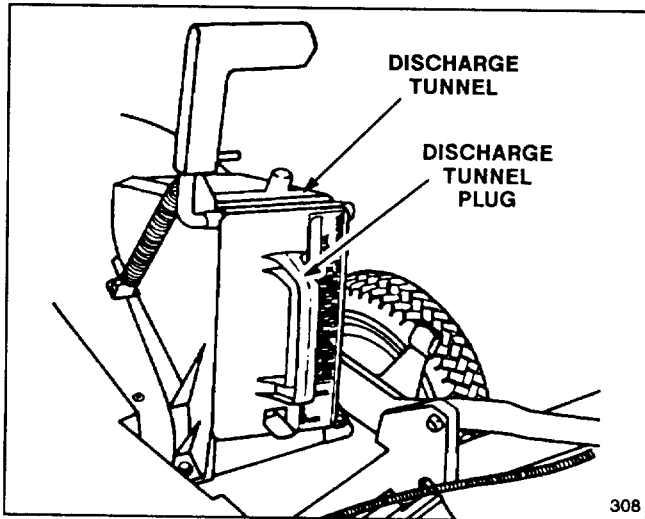

Figure 27
**1. Rear Bagging Kit, Model 59174**—Install discharge tunnel and rear mounting grass bag to convert Recycler® mower to a rear bagging mower (Fig. 27). Includes discharge tunnel plug.